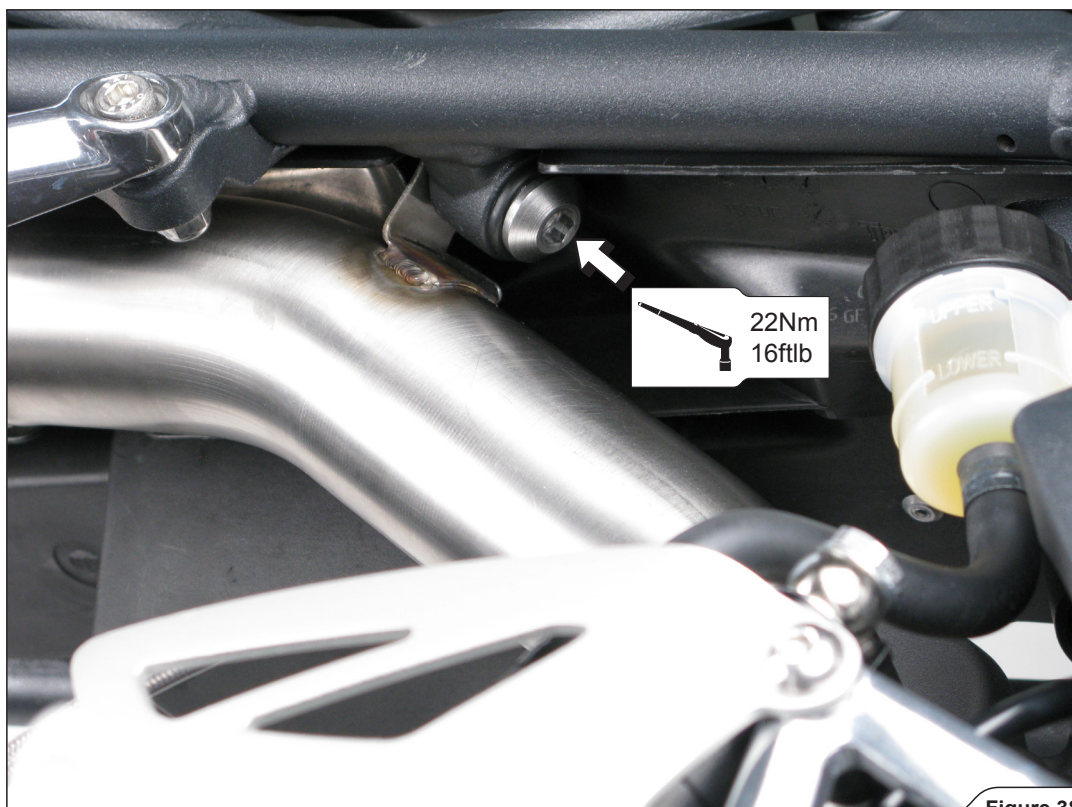

Figure 38
15. Tighten the link pipe bracket bolt (Figure 38).